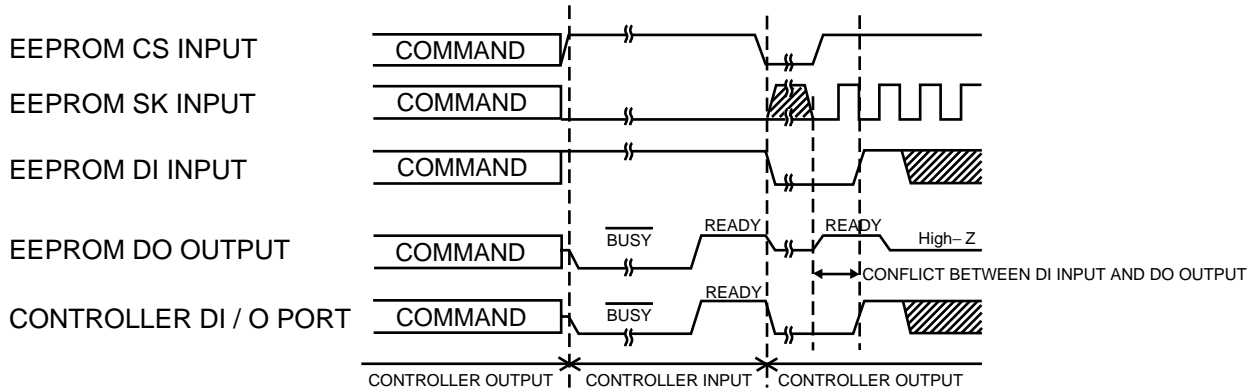

Fig.37 DI/O Port to connect DI and DO during write operation
(2) CS= "H" after program command. (See Fig.37)